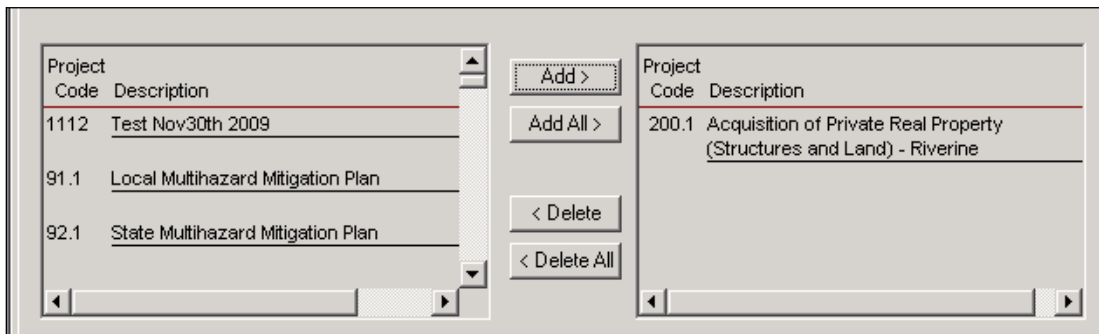

Figure 6-27: Project Code and Description Added
- b. Click the ADD or ADD ALL (if you highlighted more than one row) button. The Project Code(s) and Description(s) you selected are now displayed on the right side (Figure 6-27).